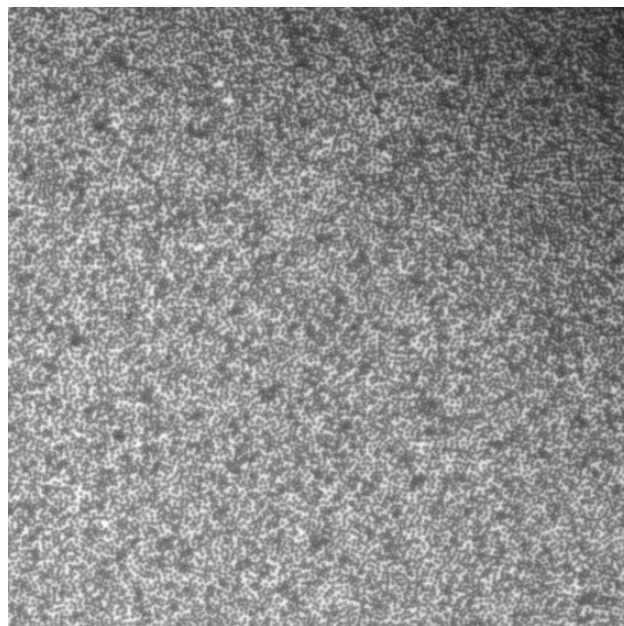

Figure 57 Beads in focus.
- ⓘ **IMPORTANT!** You should see images of beads, ensuring that the algorithm was able to focus on the beads and not on other artifacts (see Figure 57 on page 63). If you do not see bead images or if you see out-of-focus bead images, set the focus range manually (see “Manually find the focus range” on page 103).